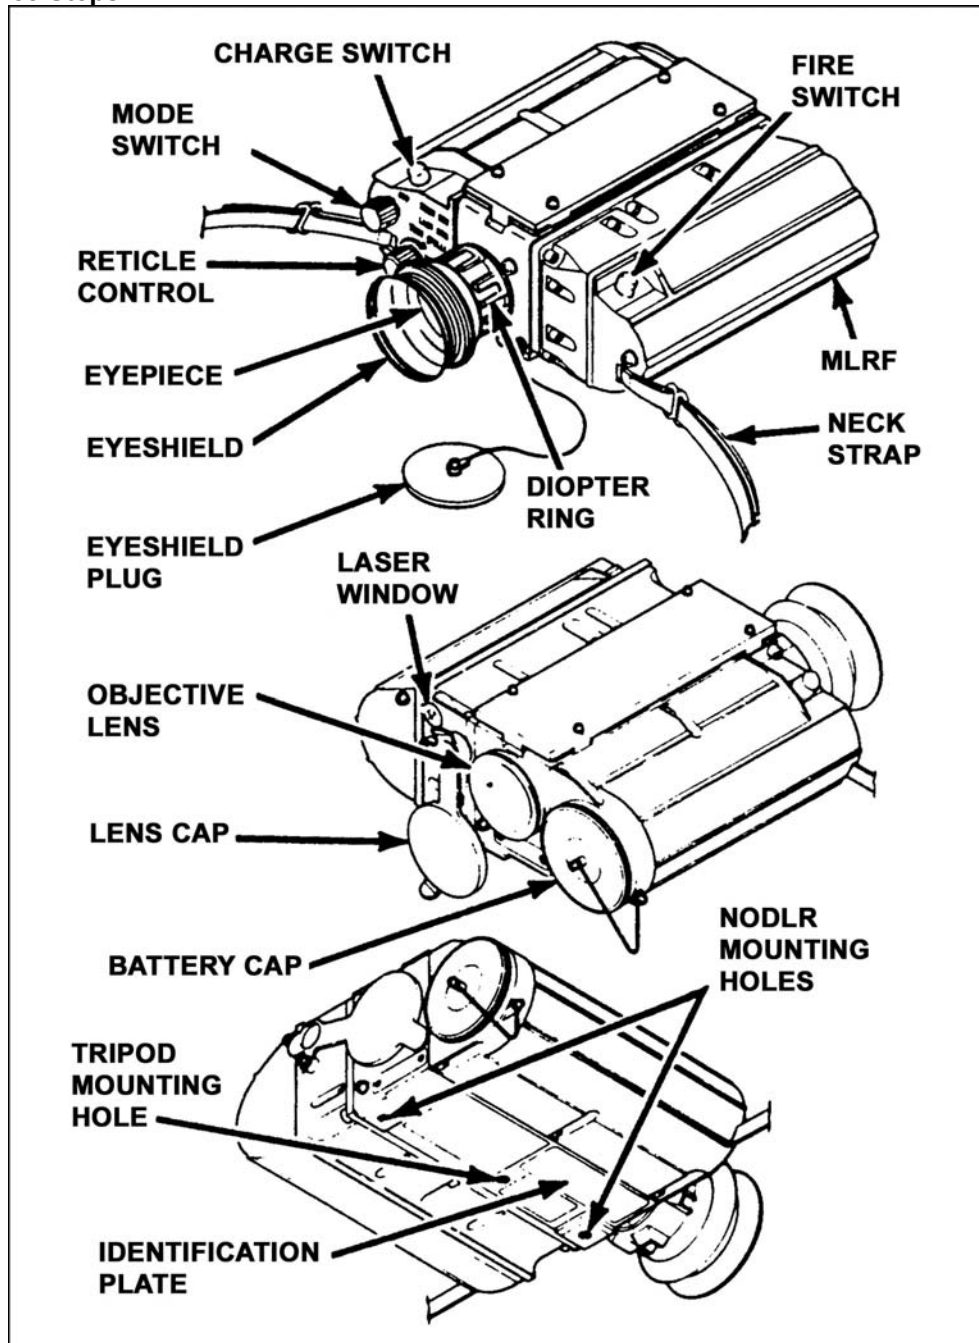

Figure 4. MELIOS laser rangefinder components.
- f. Pull the eyeshield plug out of eyeshield (Figure 4).